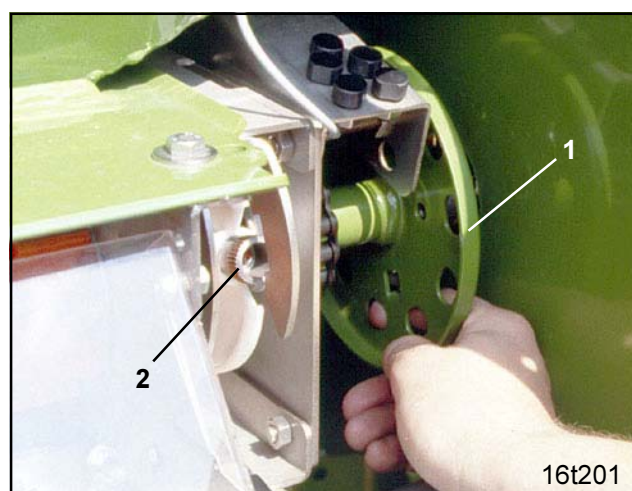

Fig. 15.7
- Turn hand wheel (Fig. 15.7/1) until the knurled bolts (Fig. 15.7/2) can be seen